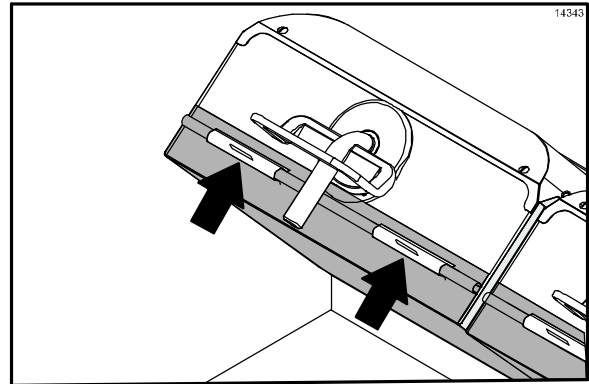

Figure 99
40. Re-install the release sheets. Secure the sheets with the locking clips and bars. (See Figure 99.)